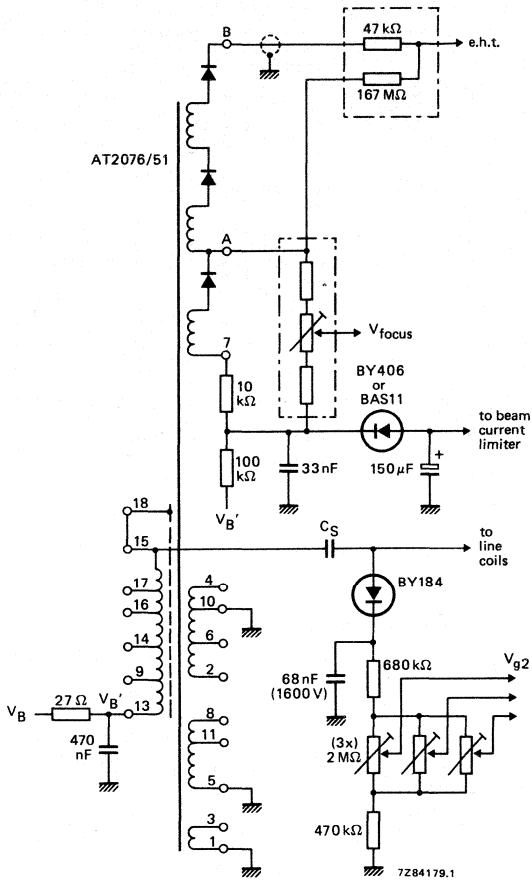

Fig. 3 Circuit diagram of transformer, and e.h.t., focus voltage and V_{g2} circuits.
* D.C. component on these pulses is V_B' (see Fig. 3).
Above measurements using circuits of Figs 3, 4a and 4b.
| | | Figs 3 and 5a $V_B = 154,5 \text{ V}$ | | Figs 3 and 5b $V_B = 134,3 \text{ V}$ | | |